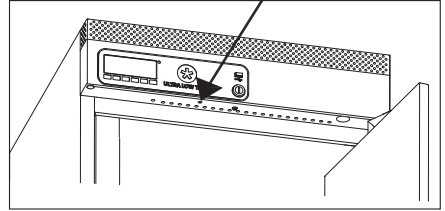

fig. 9
2. Use a pen to switch on the battery backup system in the hole shown on fig. 9